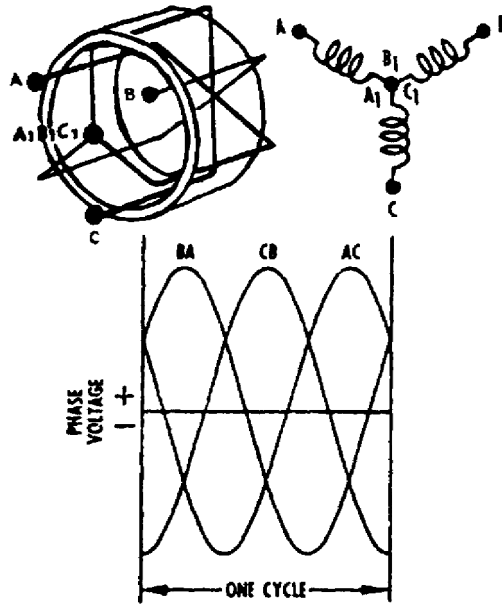

Figure 26. Wye "Y" connection.
d. When the ends of the loops of wire marked  $A_1$ ,  $B_1$ , and  $C_1$  are connected together, a basic three-phase "Y"-connected stator is formed. The three voltages available from the "Y"-connected stator may be labeled BA, CB, and AC. From figure 26, it may be seen that each of these voltages consists of the voltages in two loops of wire added together. For example, the voltage measured from B to A consists of the voltages in loops  $B_1B$  and  $A_1A$  added together. This addition yields a voltage curve BA similar in shape and form to the individual loop voltages, except that the voltage curve BA will be approximately 1.7 times as large in magnitude as an individual loop voltage. The addition of the loop voltages involves a mathematical process which will not be presented here, since it is only necessary to remember that three AC voltages spaced  $120^\circ$  apart are available from the "Y"-connected stator, as illustrated. These voltage curves will be considered in more detail in the following paragraphs.